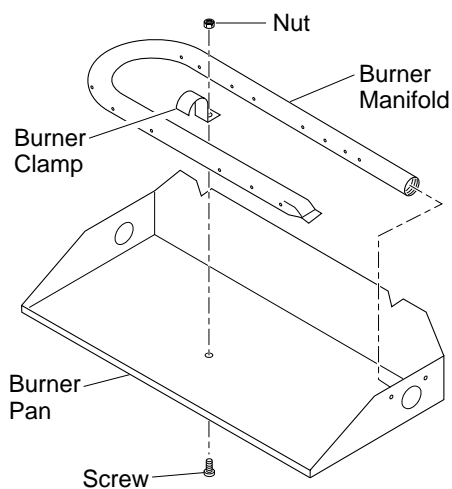

Figure 9 - Installing Burner
3. Place burner manifold in pan with threaded opening facing open knock-out plug (see Figure 9). **Note:** If using propane/LP gas, see *Propane/LP Gas Conversion*, page 10.
5. Using burner clamp, screw, and nut provided, assemble clamp to pan ("U" style burners only). This will hold the burner manifold in place (see Figure 9).